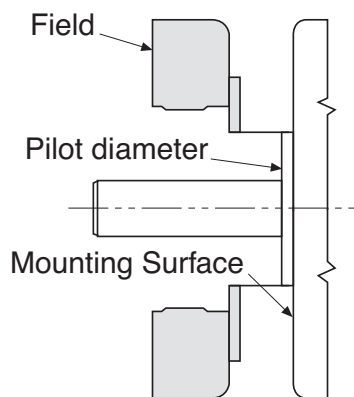

Figure 1
- An appropriate pilot diameter must be provided on the mounting surface as well. (Figure 1)